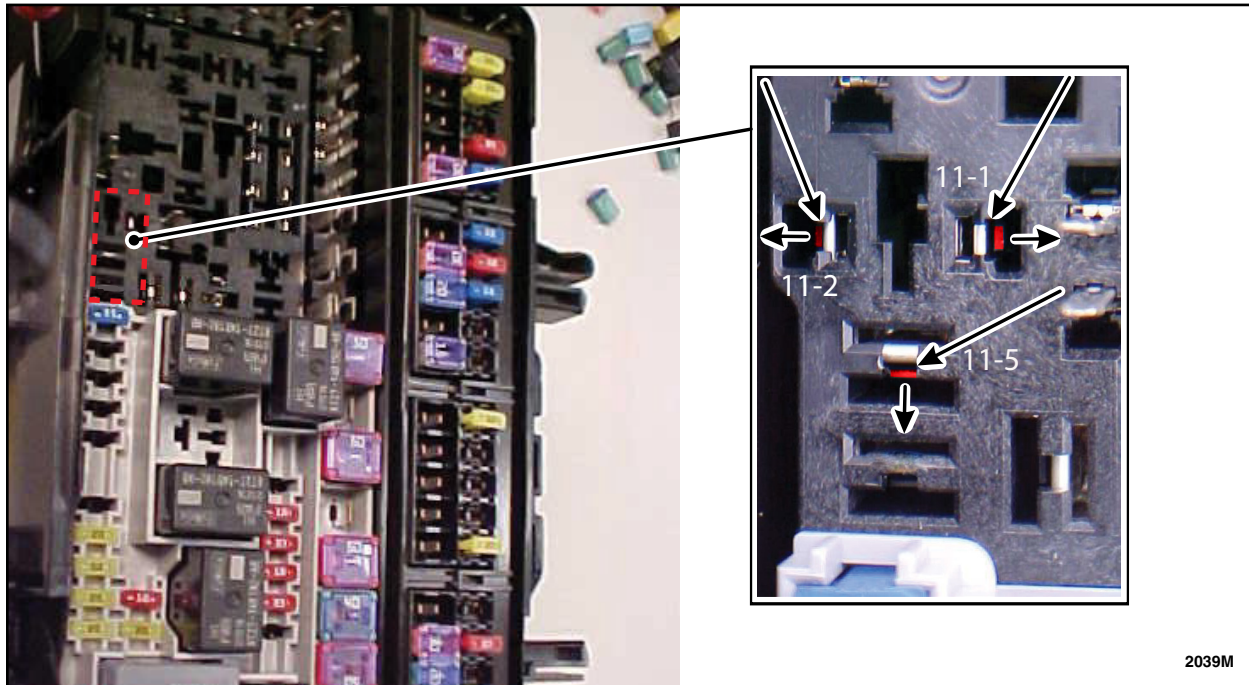

FIGURE 10
8. Using the terminal removal tool, remove the remaining three (3) wire terminals (noted below) from the R11 relay cavities, in the same manner as the previous Step, and position the wire terminals out from under the BJB. See Figure 10.